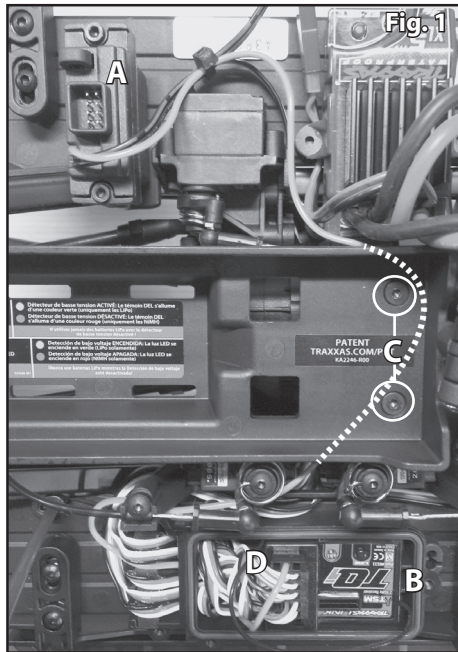

Fig. 2
1. Install the included templates on the body. Align the arrows with the body lines on the front grille and the tailgate as shown in Fig. 2 and 3.